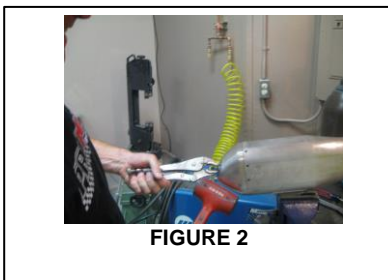

FIGURE 2
5. Remove the stock end cap by gripping it with a pair of pliers/channel locks and tapping with a rubber mallet. Be sure to apply even pressure and do not damage the muffler canister. If stock end cap is difficult to remove, another option is drill a hole through both sides of the aluminum endcap, slide a long screwdriver through the holes and use it as a handle for better pulling leverage. **FIGURE 2**